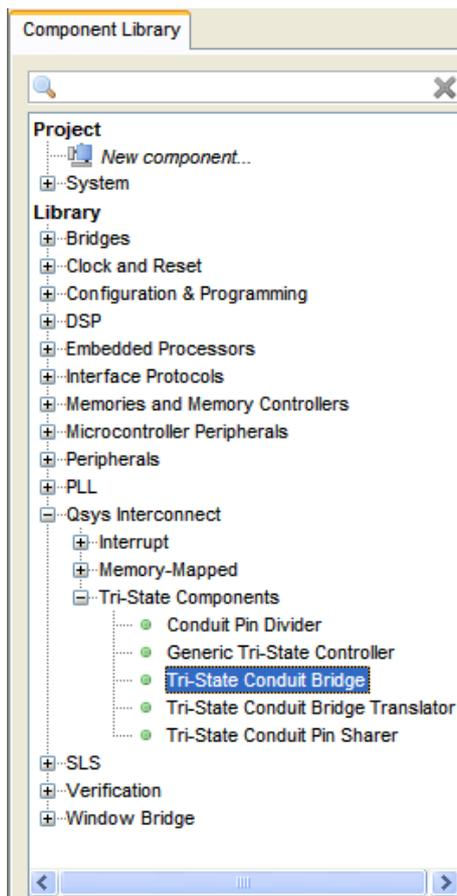

Figure 3-14 Add Tri-State Conduit Bridge
8. Choose **Library > Qsys interconnect > Tri-State Components > Tri-State Conduit Bridge** to open the Tri-State Conduit Pin Bridge wizard. See Figure 3-14.